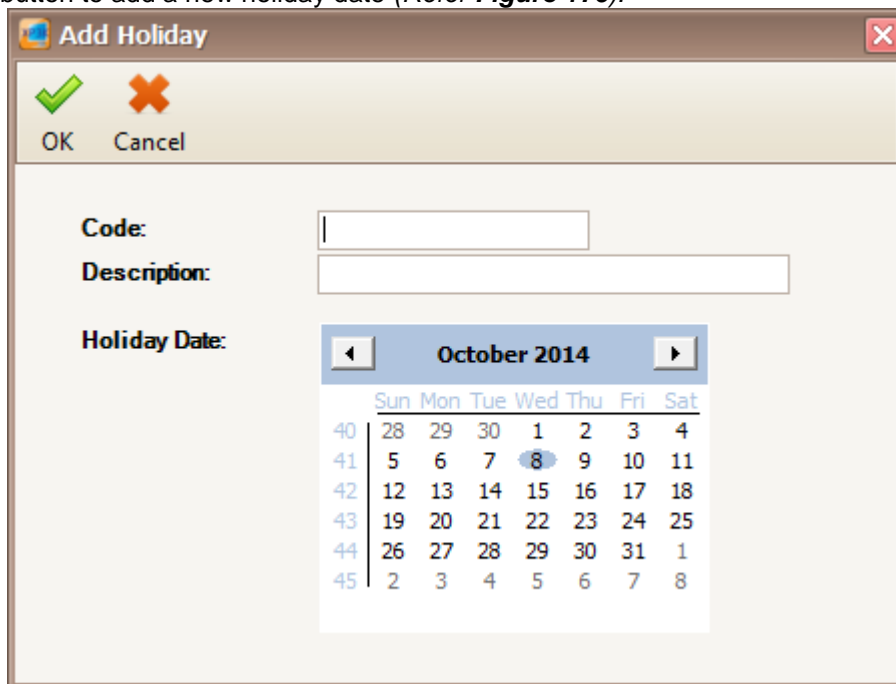

Figure 176 - Add Holiday
3. Click Add button to add a new holiday date (Refer **Figure 176**).